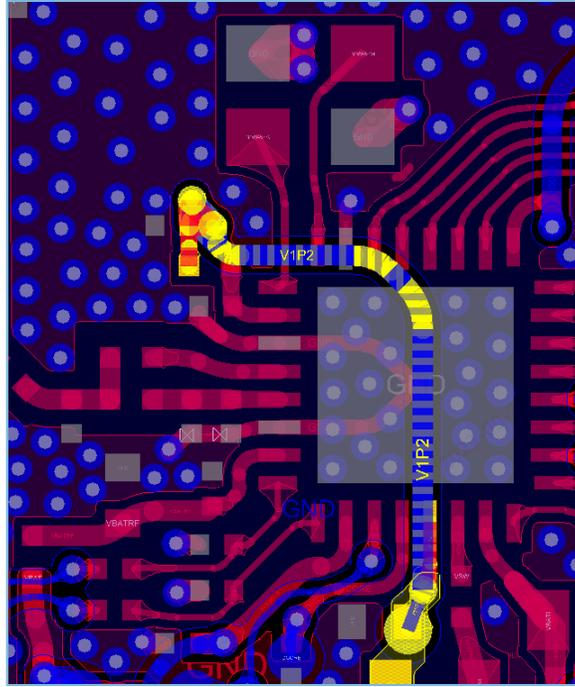

Figure 3-17 Reference layout and routing for RF input power supply
- Avoid connecting the VREG network to the VDD_RF pin by routing through the RF routing reference layer. Instead, it is recommended to pass through the E-PAD projection area, as shown in Figure 3-17.